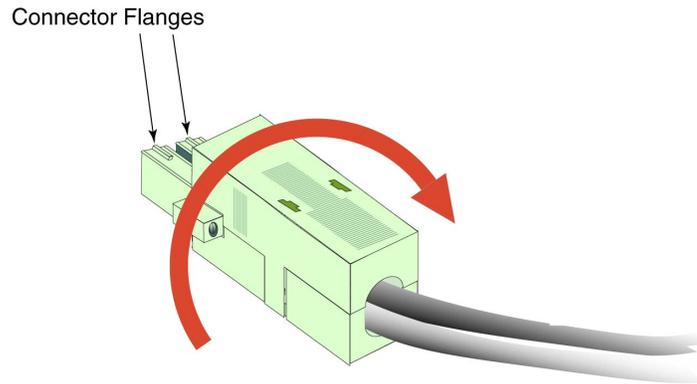
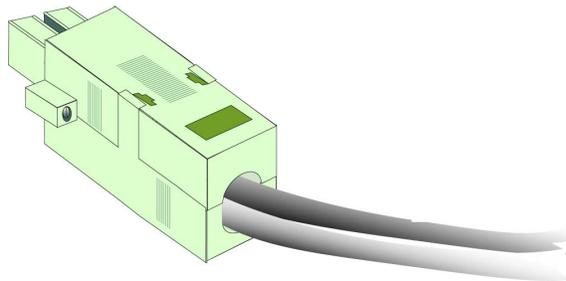

Figure 2-9. Rotate DC Shell Assembly 180 Degrees around Axis of Power Cable
Figure 2-10. DC Shell Assembly Rotated 180 Degrees
- a** Flanges on the plug (Figure 2-9) allow it to fit into the DC power input port on the backplate of the BANDIT III in only one way (recall, for example, Figure 1-9 in Section 1.1, The BANDIT III Chassis, in the BANDIT III Hardware Description). You may need to turn the plug over to fit it into the port. If this is the case, rotate the shell assembly 180° around the axis corresponding to the DC power cable (Figure 2-9 and Figure 2-10).